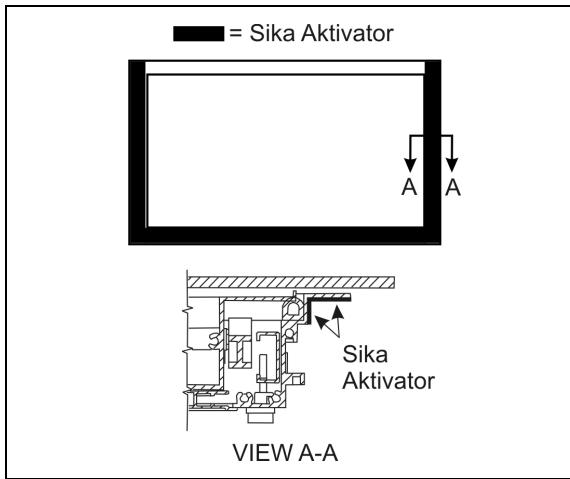

FIGURE 69 : AWNING WINDOW – SIKA AKTIVATOR
5. Previously clean surface with anti-silicone and then apply Sika Aktivator as per FIGURE 69;